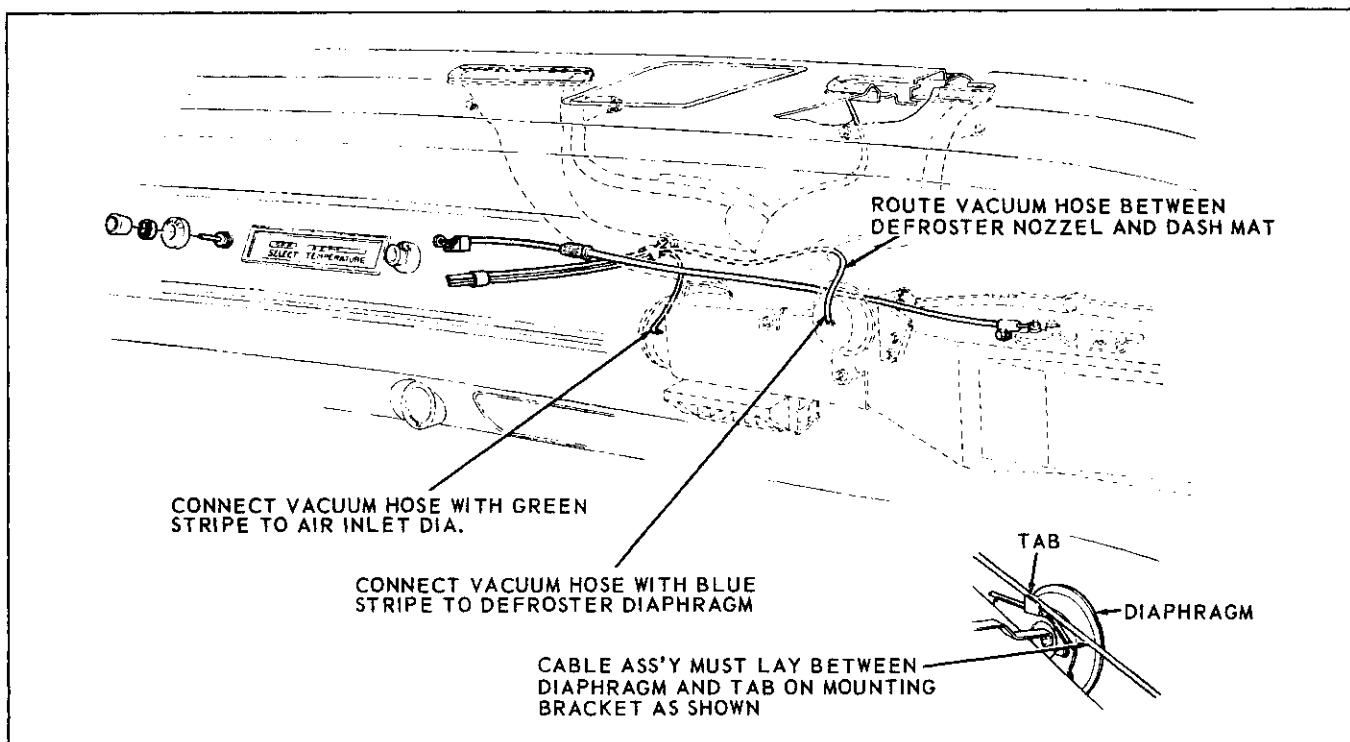

Fig. 1-1 Passenger Compartment Details—Pontiac
3. Adjust turnbuckle until cam roller bottoms at end of heater cam slot (Fig. 1-1).
1. Pull off control knobs from panel and remove bezels from left and right switches (Fig. 1-1).
BLOWER MOTOR RESISTOR—ALL REMOVE AND REPLACE (Fig. 1-1) TYPICAL
1. Disconnect temperature control cable at top of heater (Fig. 1-1).